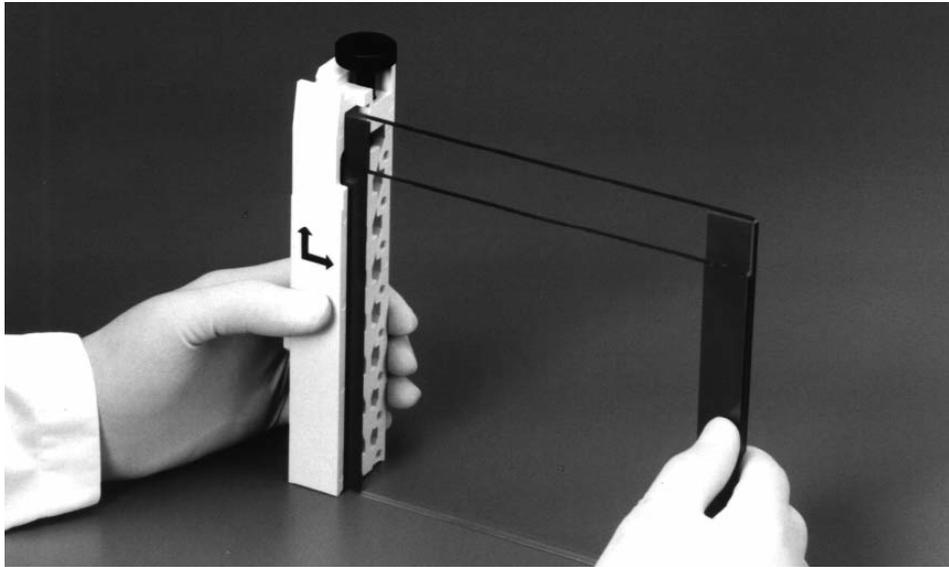

Fig. 6.4. Attaching the clamps to the glass plate assembly.
4. Grasp the gel sandwich firmly. Guide the left and right clamps onto the sandwich so that the long and short plates fit the appropriate notches in the clamp (Figure 6.4). Tighten the screws enough to hold the plates in place.